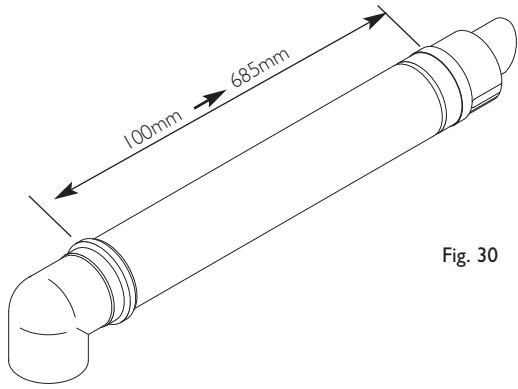

Fig. 30
1. The standard flue is suitable for lengths between 100mm minimum and 685mm maximum, as measured from the edge of the flue elbow outlet to the joint between the terminal and air duct (Fig. 30).